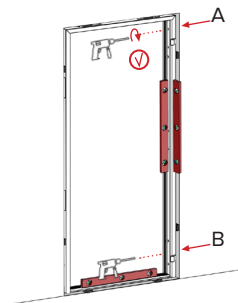

Figure 14.
3.10. Install the lower frame anchor on the hinge (B) side by repeating steps 3.5-3.8 (figure 14).